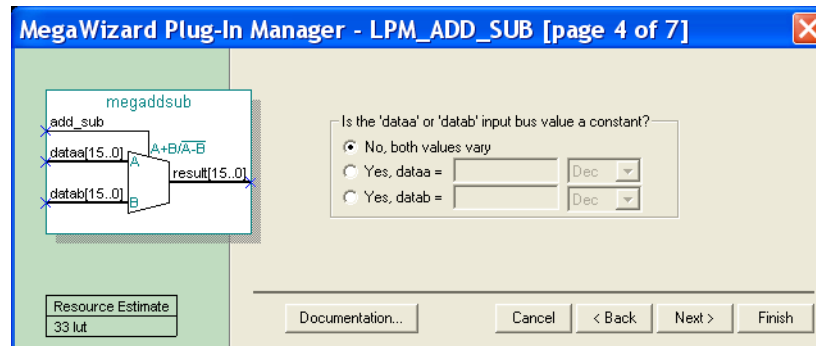

Figure 7. Further specification of inputs.
5. In the box in Figure 7, specify that the values of both inputs may vary and click Next.